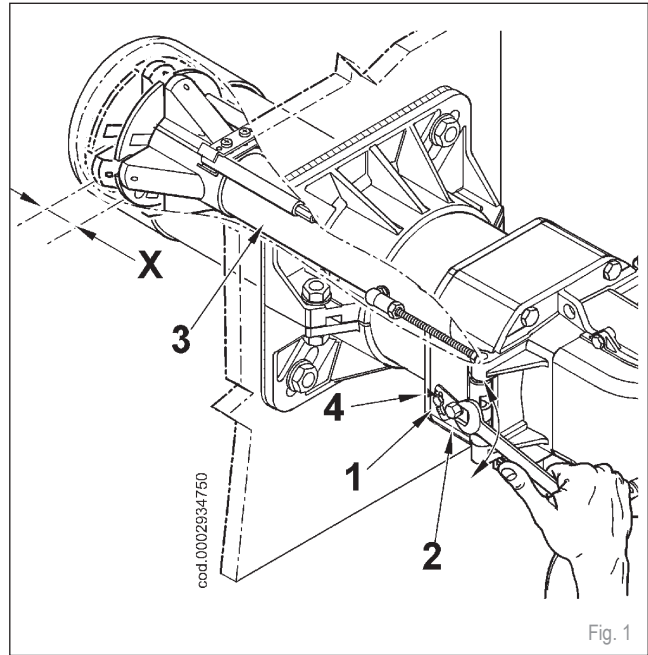

Fig. 1
- Remove the lid by unscrewing the 4 screws (1) in figure 1, without removing the transparent door. In this way the burner's electrical panel can be accessed.